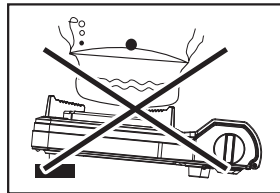

Fig. 2
- Place appliance on a stable and flat surface (Fig. 2)